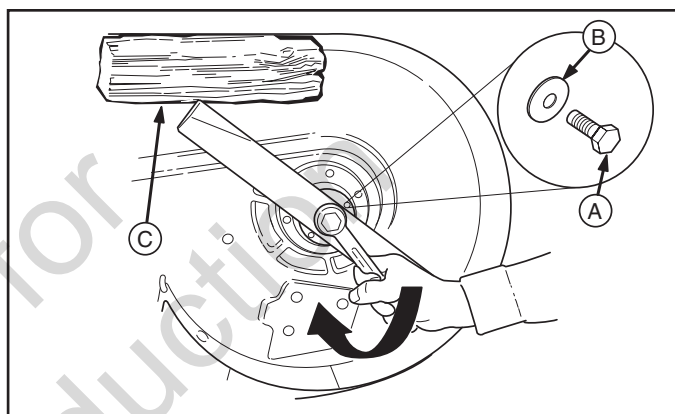

Figure 29
3. Remove capscrew (A, Figure 29), spring washer (B) and blade.
6. Reinstall the blade (Figure 29) with the airlifts pointing up toward the mower deck as shown.
7. Reinstall the spring washer (B) and capscrew (A). Use a wooden block (C) to prevent blade rotation while tightening the capscrew (A) to 50-60 ft-lbs (68-81 Nm).